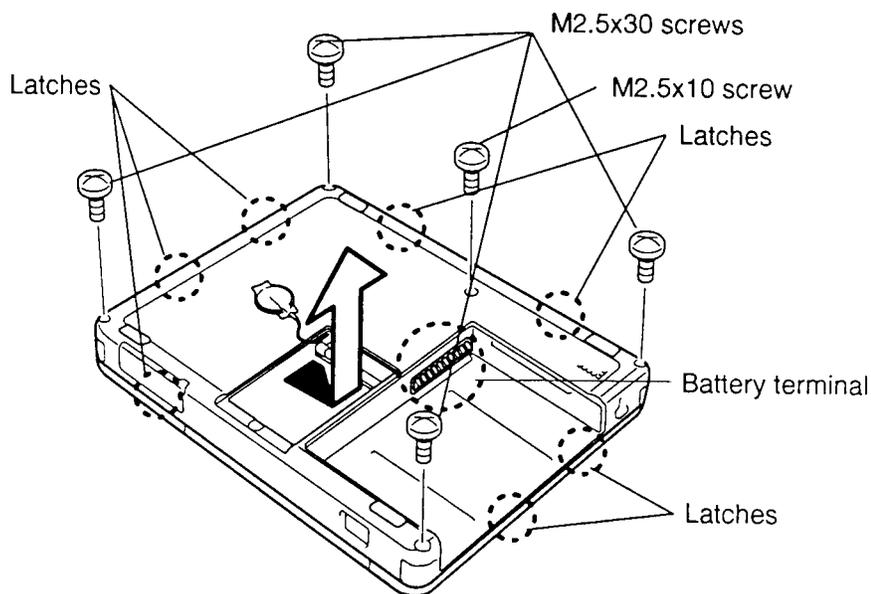

Figure 4-8 Removing the Back Cover
To remove the computer's back cover, follow the steps below and refer to Figure 4-8.
3. Remove the **four M2.5x30 screws** and **one M2.5x10 screw** (Figure 4-8).
4. Pull the cover to release the **seven latches** connecting it to the computer (Figure 4-8).
To install the computer's back cover, follow the steps below and refer to Figure 4-8.
1. Set the back cover in place and press to secure the **seven latches** (Figure 4-8). Be sure to carefully fit the cover over the battery terminal.
2. Make sure the guide tubes are aligned and seated, then secure the **four M2.5x30 screws** and **M2.5x10 screw** (Figure 4-8).